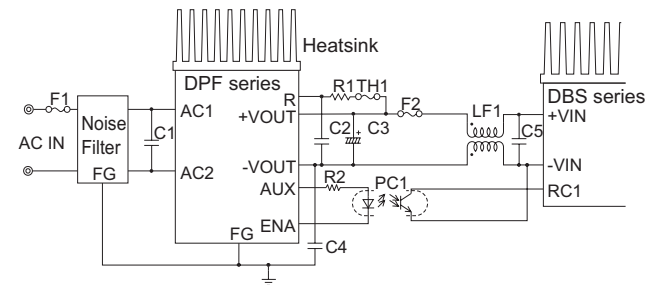

Fig.3.1 Standard connection method
■ To use DPF1000, connection shown in Fig.3.1 and outside attached components are required. Through this connection, DC output voltage can be obtained from AC input voltage. AC input voltage and DC output voltage are not insulated.
- For connecting the DBS/DAS series, see Fig.3.1.